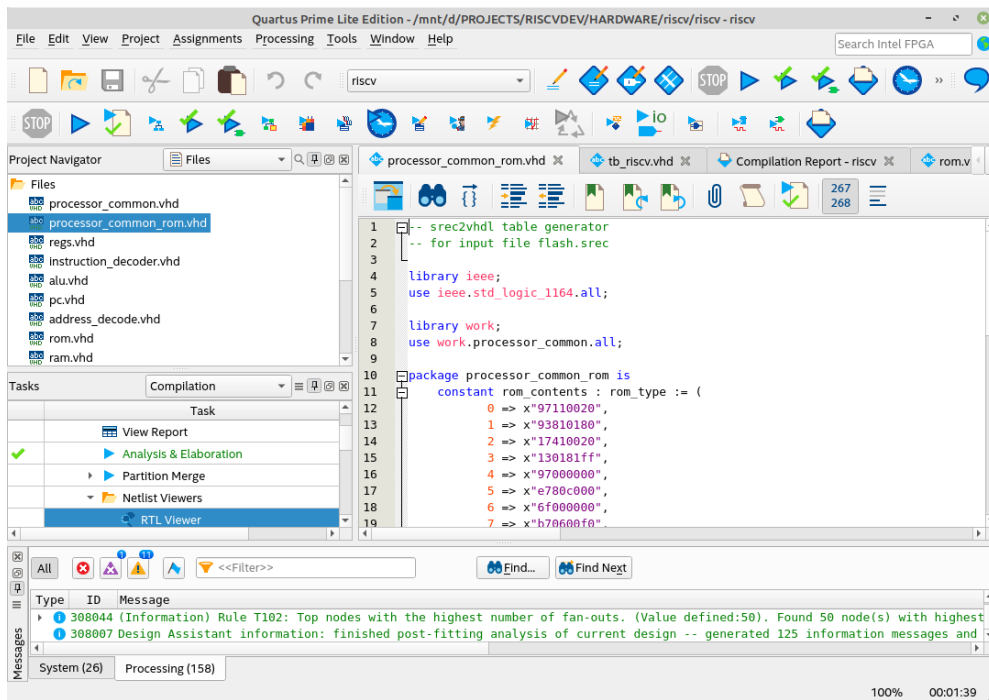

Figure 7: Image of the Quartus project (1).
- Now start the compilation of the VHDL code in Quartus Prime Lite and program the compiled file. This file has the extension `.sof`. See Figures 7 to 9.